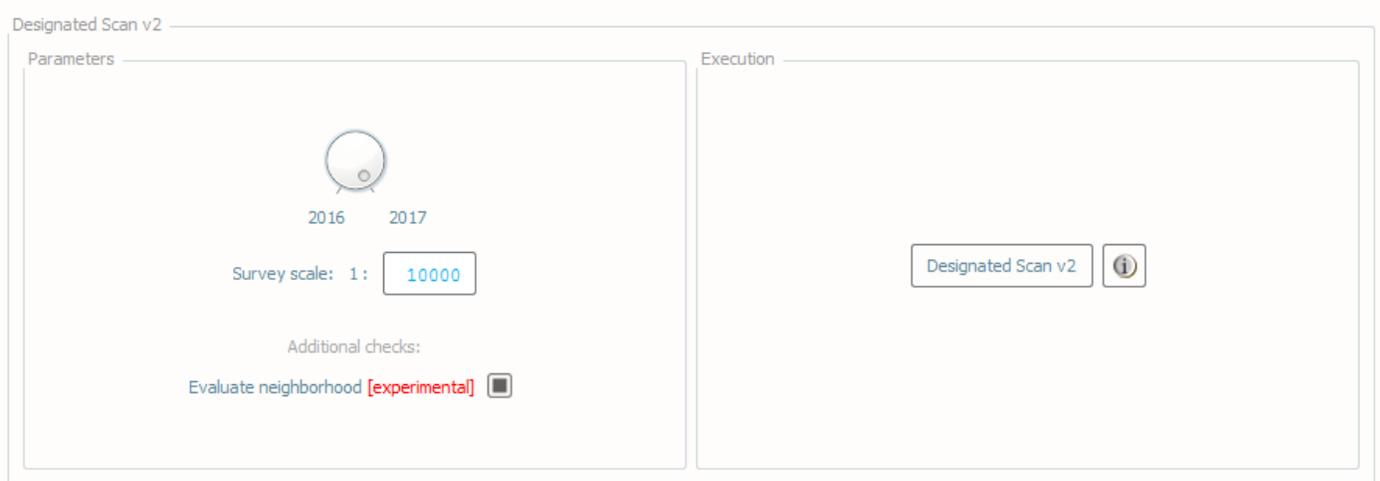

Fig. 2.18: The **Scan Designated** tab.
- Select the **Scan Designated** tab (Fig. 2.18) on the bottom of the QC Tools interface.